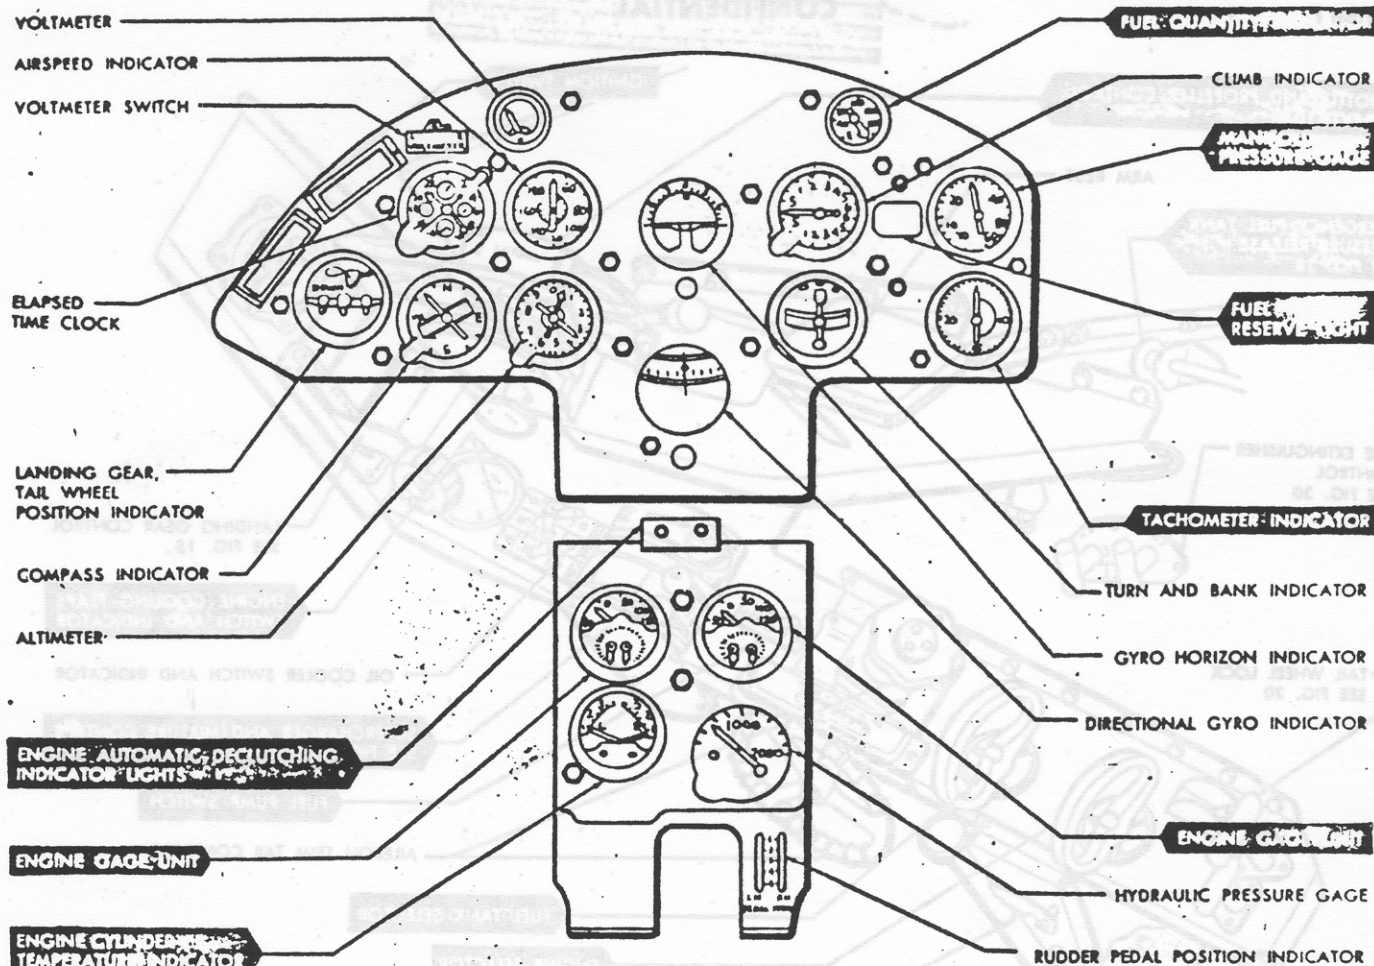

Figure 6 — Instrument Board
j. AUTOMATIC DECLUTCHING SWITCH. - AN automatic declutching switch on each engine will close, should the engine freeze or fail to put out power for any other reason. The switch acts to disengage the engine from the propeller drive system and stop the engine by cutting off the fuel supply. In the event of failure of either engine, a warning light on main instrument panel indicates which engine has failed. (See figure 6.)
(2) **MAIN TANK.** - The reinforced alclad sheet and Metalite tank, located on the center-line in the front section of the airplane aft of the cockpit, has a capacity of 261 U.S. gallons of fuel. A red warning light on the main instrument panel lights when approximately 50 U. S. gallons of fuel or less remain in the tank. (See figure 6.) Refer to figure 3 for location of filler access door.
e. **FUEL QUANTITY INDICATOR.** - The fuel quantity indicator is located on the right hand side of the main instrument panel (see figure 6). It is calibrated to indicate correctly the quantity of fuel in the main tank with the airplane in level flight at approximately 200 knots equivalent air speed.